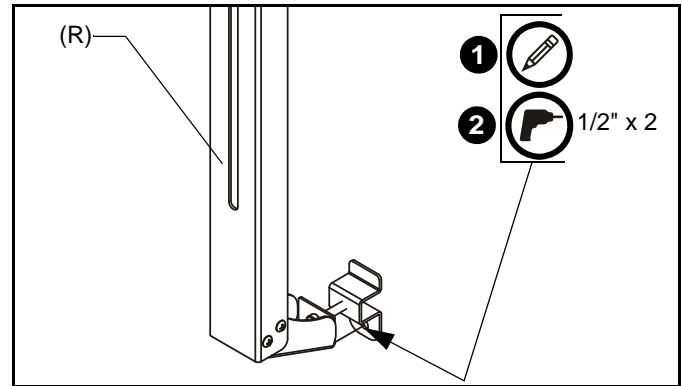

Figure 13
1. Mark the drywall through the fixed wall leg (R) on each upright assembly (Q). (See Figure 13)
2. Drill one 1/2" hole at each marking. (See Figure 13)